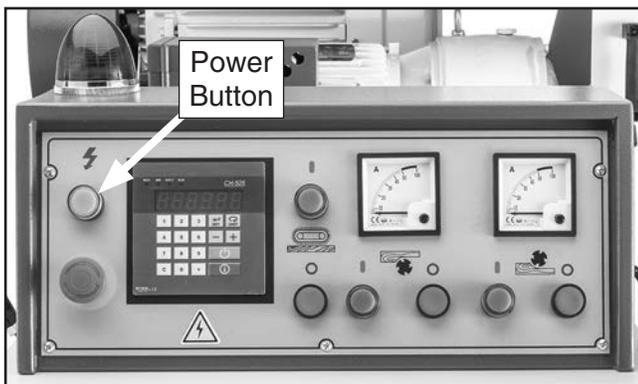

Figure 28. Location of power button.
7. Push power button (see **Figure 28**) to enable power to all motors and electrical systems.
17. Push power button (see **Figure 28** on **Page 29**) to enable power to all motors and electrical systems
22. Push power button (see **Figure 28** on **Page 29**) to enable power to all motors and electrical systems.